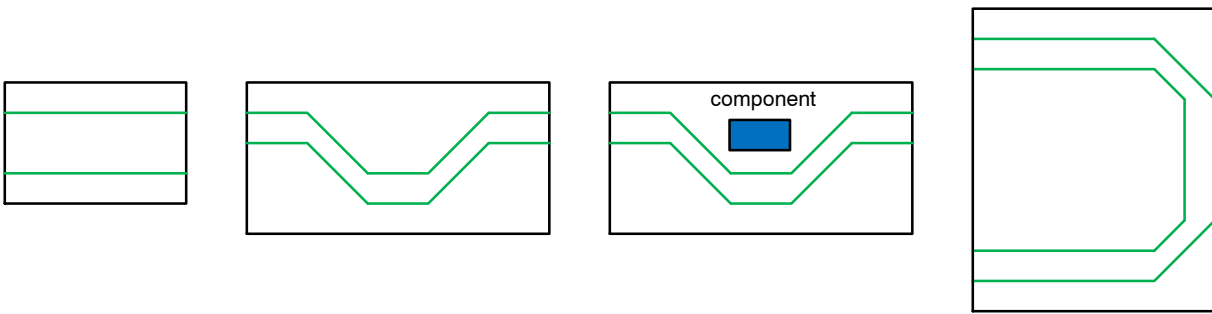

Figure 6. Proper Ways of Trace Routing
- Keep the traces as straight as possible. Where traces needs bending (due to component or PCB), use arc-shaped traces of 45° angle instead of right-angle bends uniformly following for both the traces. Figure 6 and 7 below shows examples of proper and improper ways of trace routing respectively.